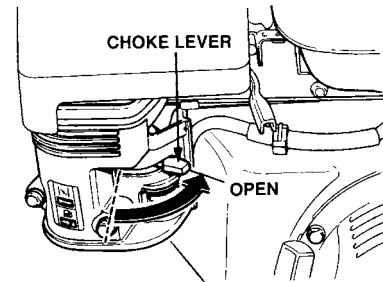

Figure 10. Engine Choke Lever (Open)
4. Place the choke lever (Figure 10) in the OPEN position if starting a warm engine or the temperature is warm.
7. Make sure the choke lever is in the OPEN position (Figure 10) before operating the power buggy. Before the buggy is placed into operation, run the engine for several minutes. Check for fuel leaks, and noises that would associate with a loose guard or cover.